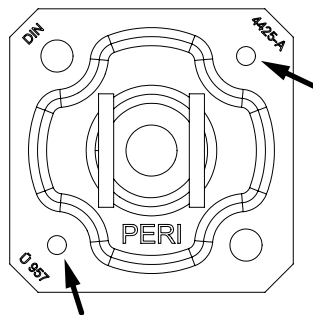
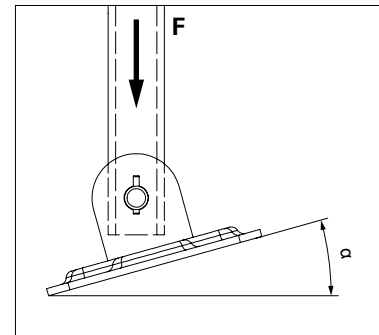

Fig. A1.04a
Fig. A1.04b
- From an installation angle of 15° , the base plate must be secured with screws at the marked holes ($\varnothing 11$ mm). The screw head must lie flat against the base plate. Pre-tensioning of the screw is not necessary. ((Fig. A1.04a) + Fig. A1.04b)